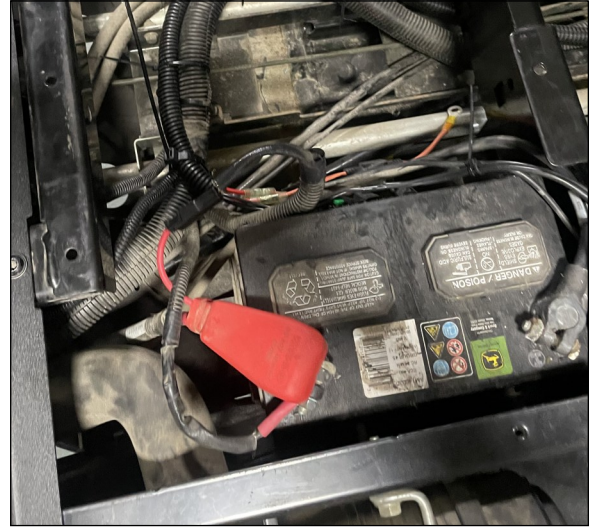

Fig. 1.1 Disconnect Battery
- 1.1 Rotate rear seat bottom up, remove and set aside. Disconnect power cables from battery. See fig. 1.1.